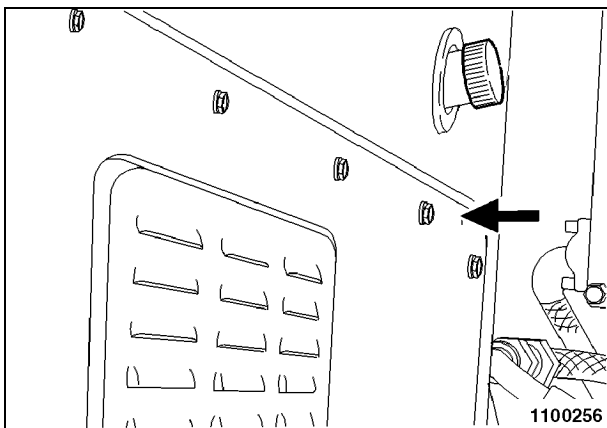

Fig. 2
- Detach the step (4) behind the cab (Fig. 2) by loosening and removing the screws (5).